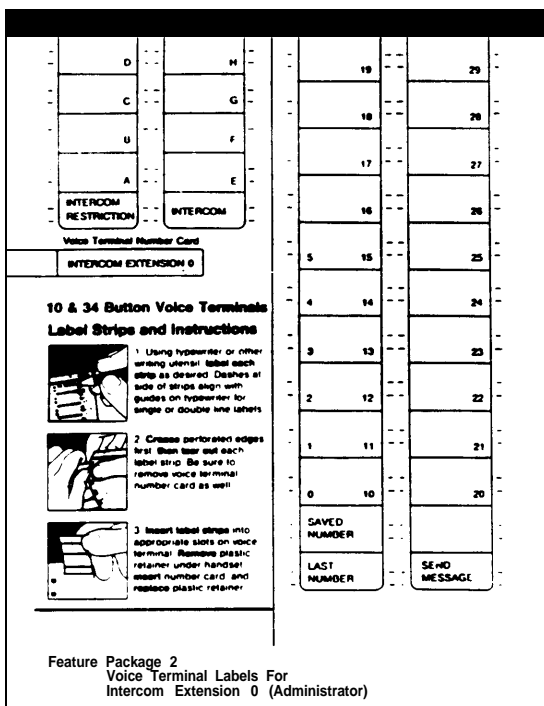

Figure 5. Feature Package 2 Voice Terminal Labels (One-Fourth Actual Size)
- 2 - Feature Package 2 — Voice Terminal Labels for Inter-com Extension 0 (Administrator) (Figure 5)